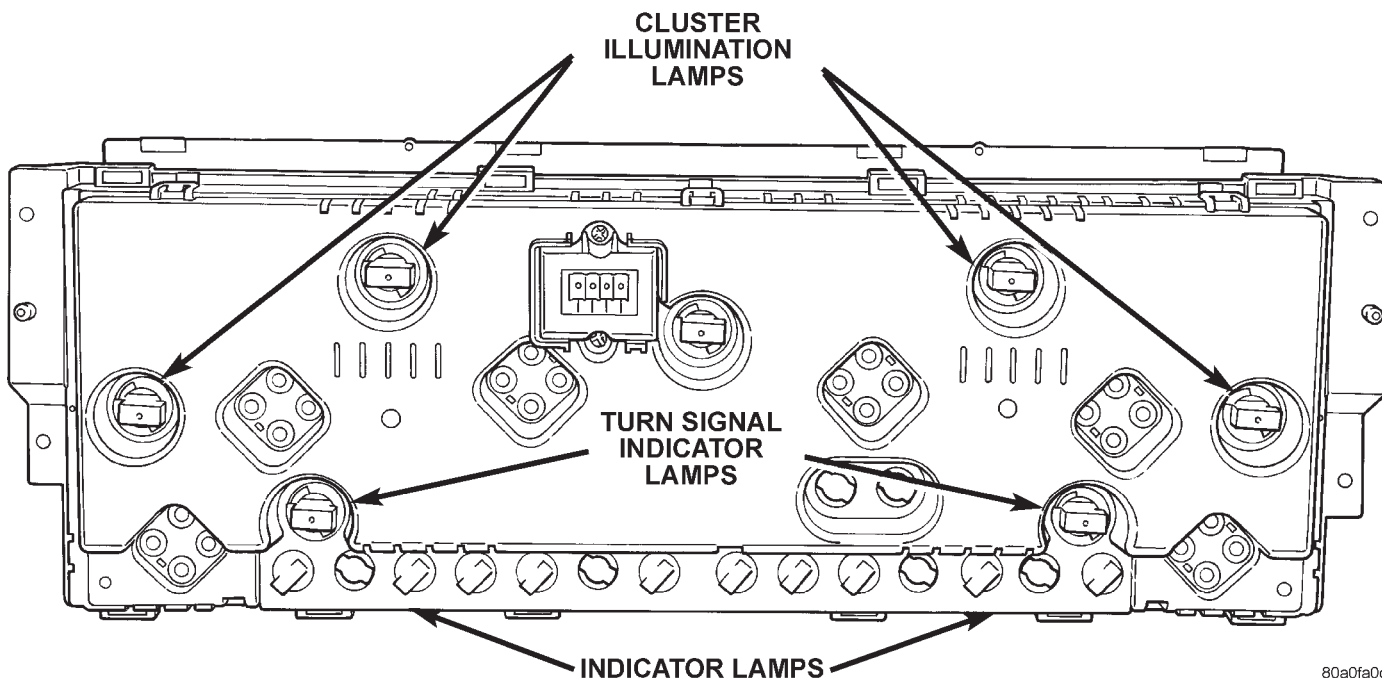

Fig. 9 Cluster Bulb Locations
(1) Remove the instrument cluster from the instrument panel. See Instrument Cluster in this group for the procedures.
(2) Remove the bulb and bulb holder from the circuit board on the rear of the cluster housing by turning the holder counterclockwise (Fig. 9).